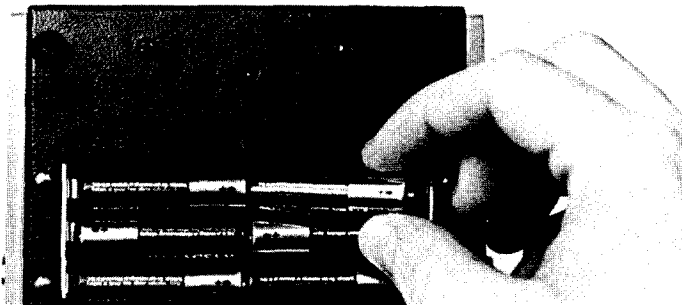

Fig. 2: Installing batteries
2. Install 6 "AA" cells, observing proper polarity as marked in the battery compartment and as shown in Fig. 2.